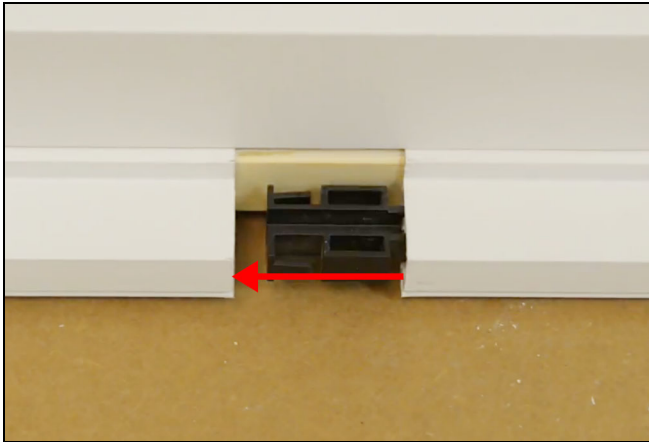

Figure 22
5. With a wood block and hammer, tap the head track to insert the alignment pins. Ensure all joints are tight. See Figure 22.